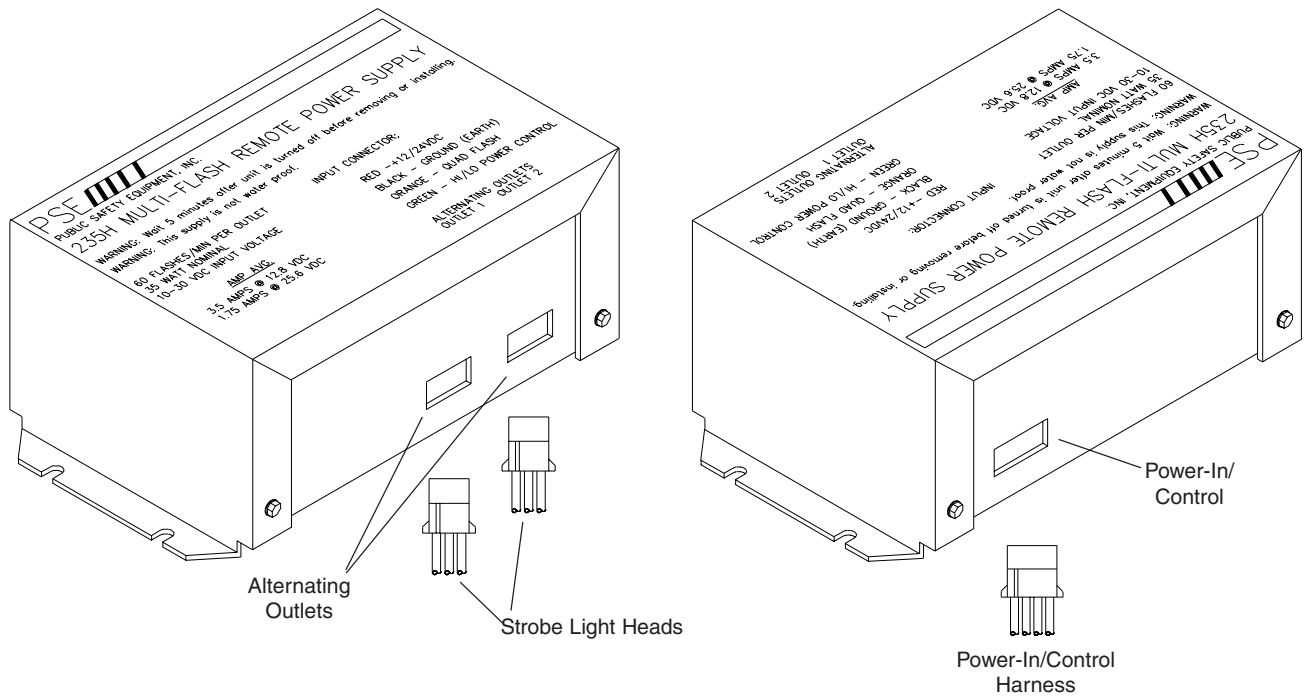

FIGURE 3
(See Figure 3, page 5)
WARN- It is very important to observe the pin locations and color on the AMP three pin socket housings. Improper connections could damage the remote strobe heads, see Figure 3.
3. With the AMP 3 pin connectors terminated properly , plug each cable into the appropriate 3 position socket on the 235H strobe power supply, see Figure 3, page 5.
The Power-input/Control harness is to be connected to the 4-position socket connector on the 235H strobe power supply. See Figure 3, page 5. The Power-input/Control harness is to be connected to customer supplied wiring and a customer supplied switch to complete the installation.